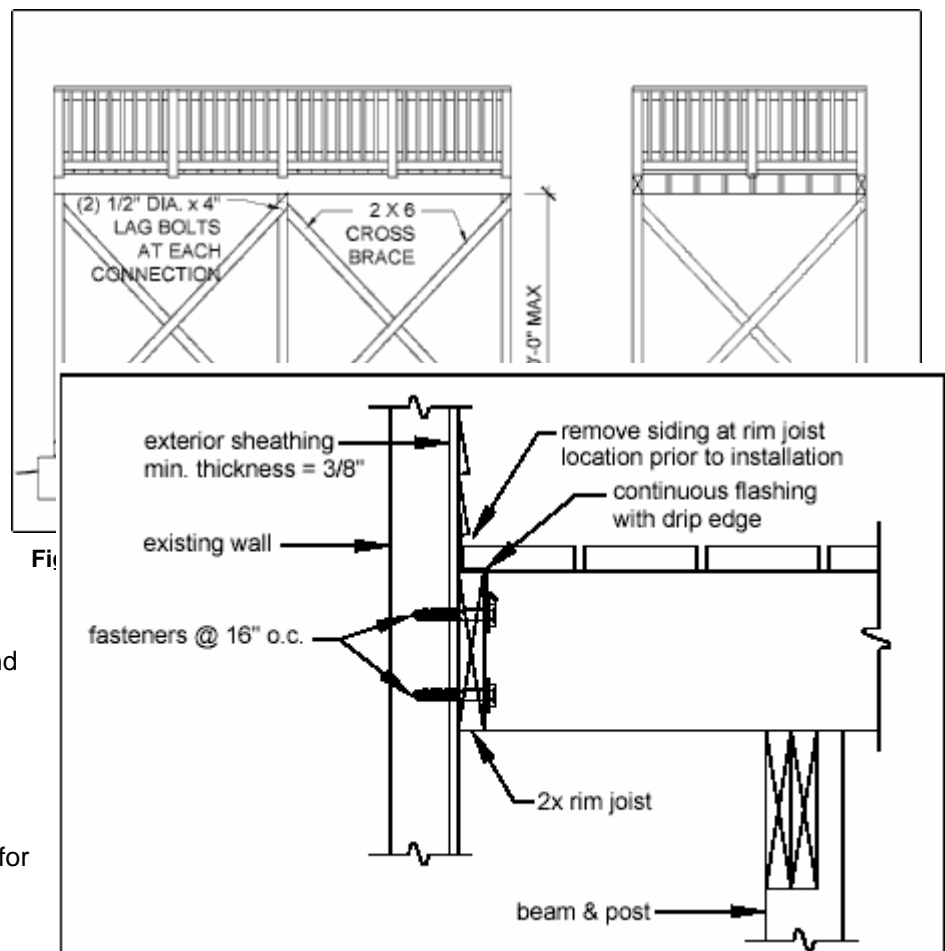

Figure 15 - Attachment to House Lateral Support
8. See Figures 15 to 34 for bracing, connection, built-up beam, footing, guardrail, and stairway details.
one-half of the deck by the attachment of the deck rim joist to the existing house as shown in Figure 15 (the beams and posts furthest from the house still require the diagonal bracing as shown in Figure 14). The existing exterior wall must have sheathing consisting of structural wood panels with a minimum thickness of  $\frac{3}{8}$ " , and the fasteners shall attach to an existing band board or wall stud. The deck rim joist may also attach to a concrete wall, but not to a brick veneer. **You must verify this condition in the field prior to utilizing this method.** Fasteners shall be 16" on center and must penetrate existing wall studs. See also the provisions noted on page 8. Flashing over the rim joist is required and must be installed in accordance with the flashing provisions noted on page 7.